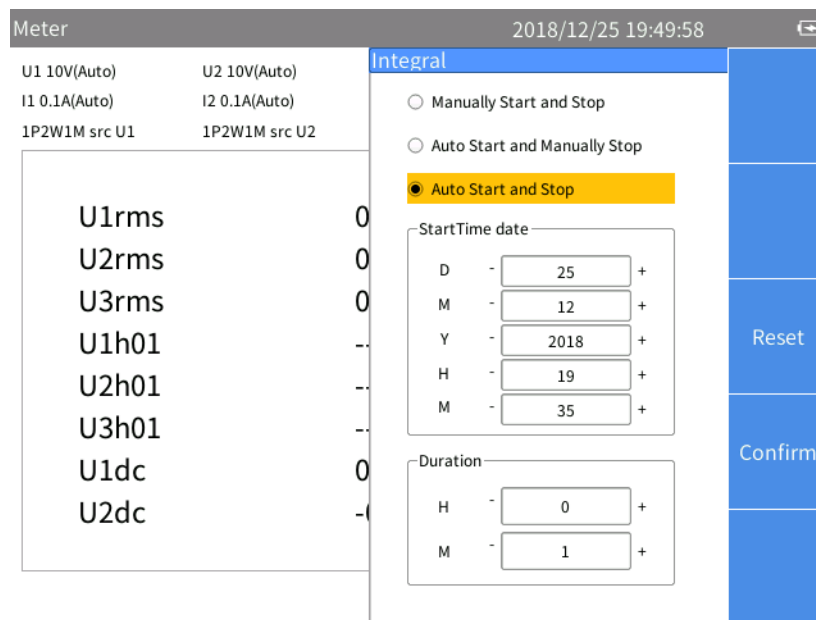

Figure 16. Auto Start and Auto Stop
- o Set the auto start date, time, and Duration and push **F4** (**Confirm**) (See Figure 16.)